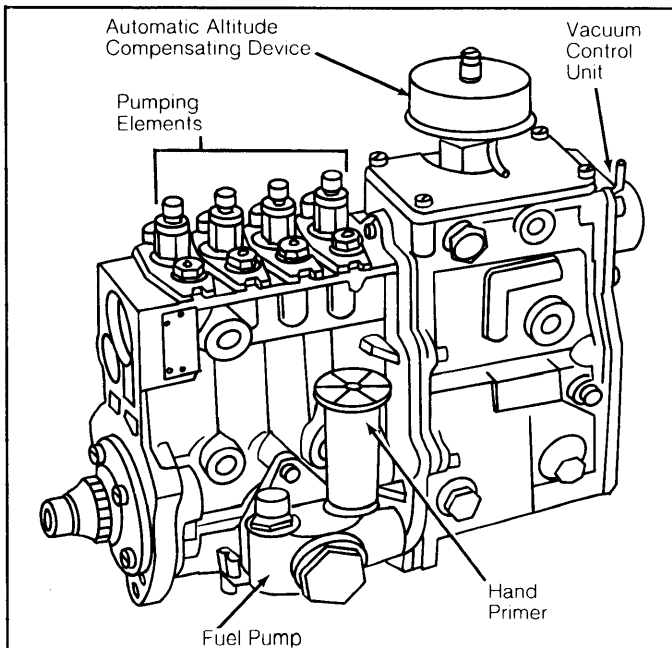
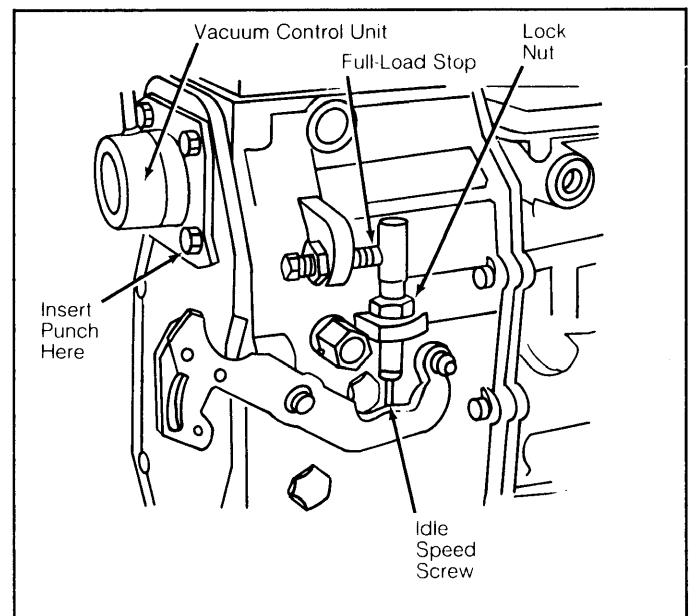

Fig. 1: Fuel Injection Pump Components
Fig. 2: Control Lever & Adjusting Screws
Fuel delivery pump, attached to fuel injection pump, is driven by injection pump camshaft and features a hand primer pump. See Fig. 1. Some injection pumps feature control levers, full load stop screws, and idle adjusting screws. See Fig. 2. On 240D, control pressure rod for automatic transmission is connected to end of control lever.
3) Disconnect control rod at bellcrank. Check idle speed with tachometer. Loosen lock nut. See Fig. 2. Using adjusting screw, adjust idle speed to 650-850 RPM. Reconnect control rod free of tension. Adjust throttle linkage if necessary.